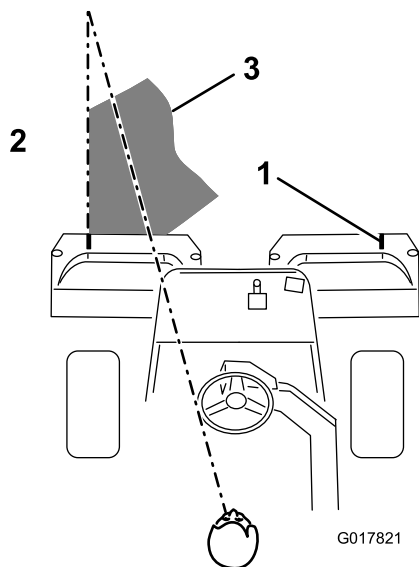

Figure 40
3. Overlap a minimal amount with the previous cut on return passes. To assist in maintaining a straight line across the green and keep the machine an equal distance from the edge of the previous cut, establish an imaginary sight line approximately 1.8 to 3 m (6 to 10 ft) ahead of the machine to the edge of the uncut portion of the green (Figure 40). Some find it useful to include the outer edge of the steering wheel as part of the sight line; i.e. keep the steering wheel edge aligned with a point that is always kept the same distance away from the front of the machine (Figure 40).